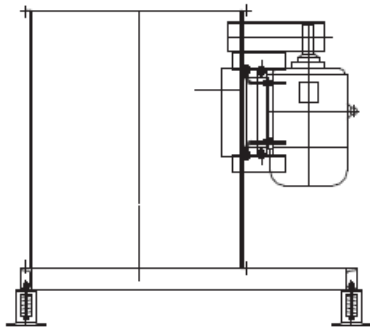

Fig. 2
Vertical seat-mounted (See Fig 2)
- 4.7 For Belt drive fan, Inspect the belt tension and adjust it as needed. (See Fig 2)